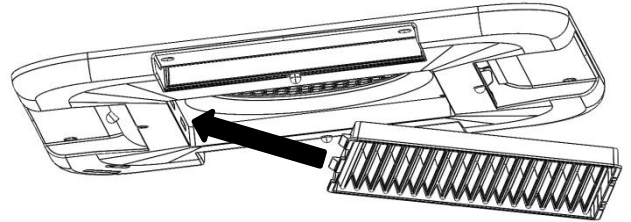
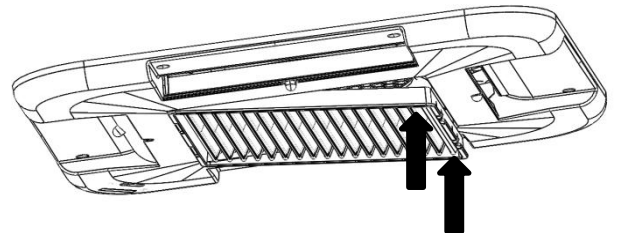
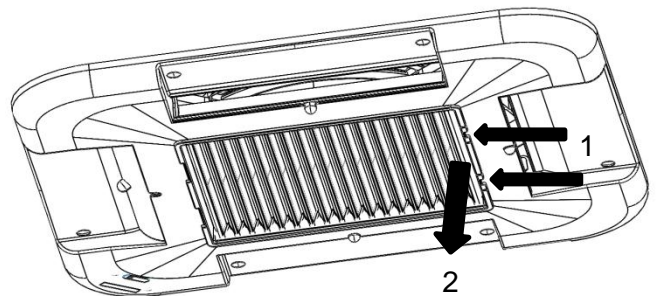

Figure 14 - Insert filter tabs into slots
Figure 15 - Push upwards
Figure 16 - Remove filter from plenum
- Locate the Plenum assembly (Item#4) and remove the filter (Item #5). See Figure 16
- Align the tabs on one side of the filter body with matching slots in the plenum. Insert the filter into the recess in the plenum. Figure 14
- Push the filter upwards until both catches engage and hold the filter in place. Figure 15
1. To remove the filter from the plenum Figure 16:
To clean the filter, first remove it by pushing both tabs on the side to release. Figure 16. Swing the filter down and out. Figure 15 & Figure 14.